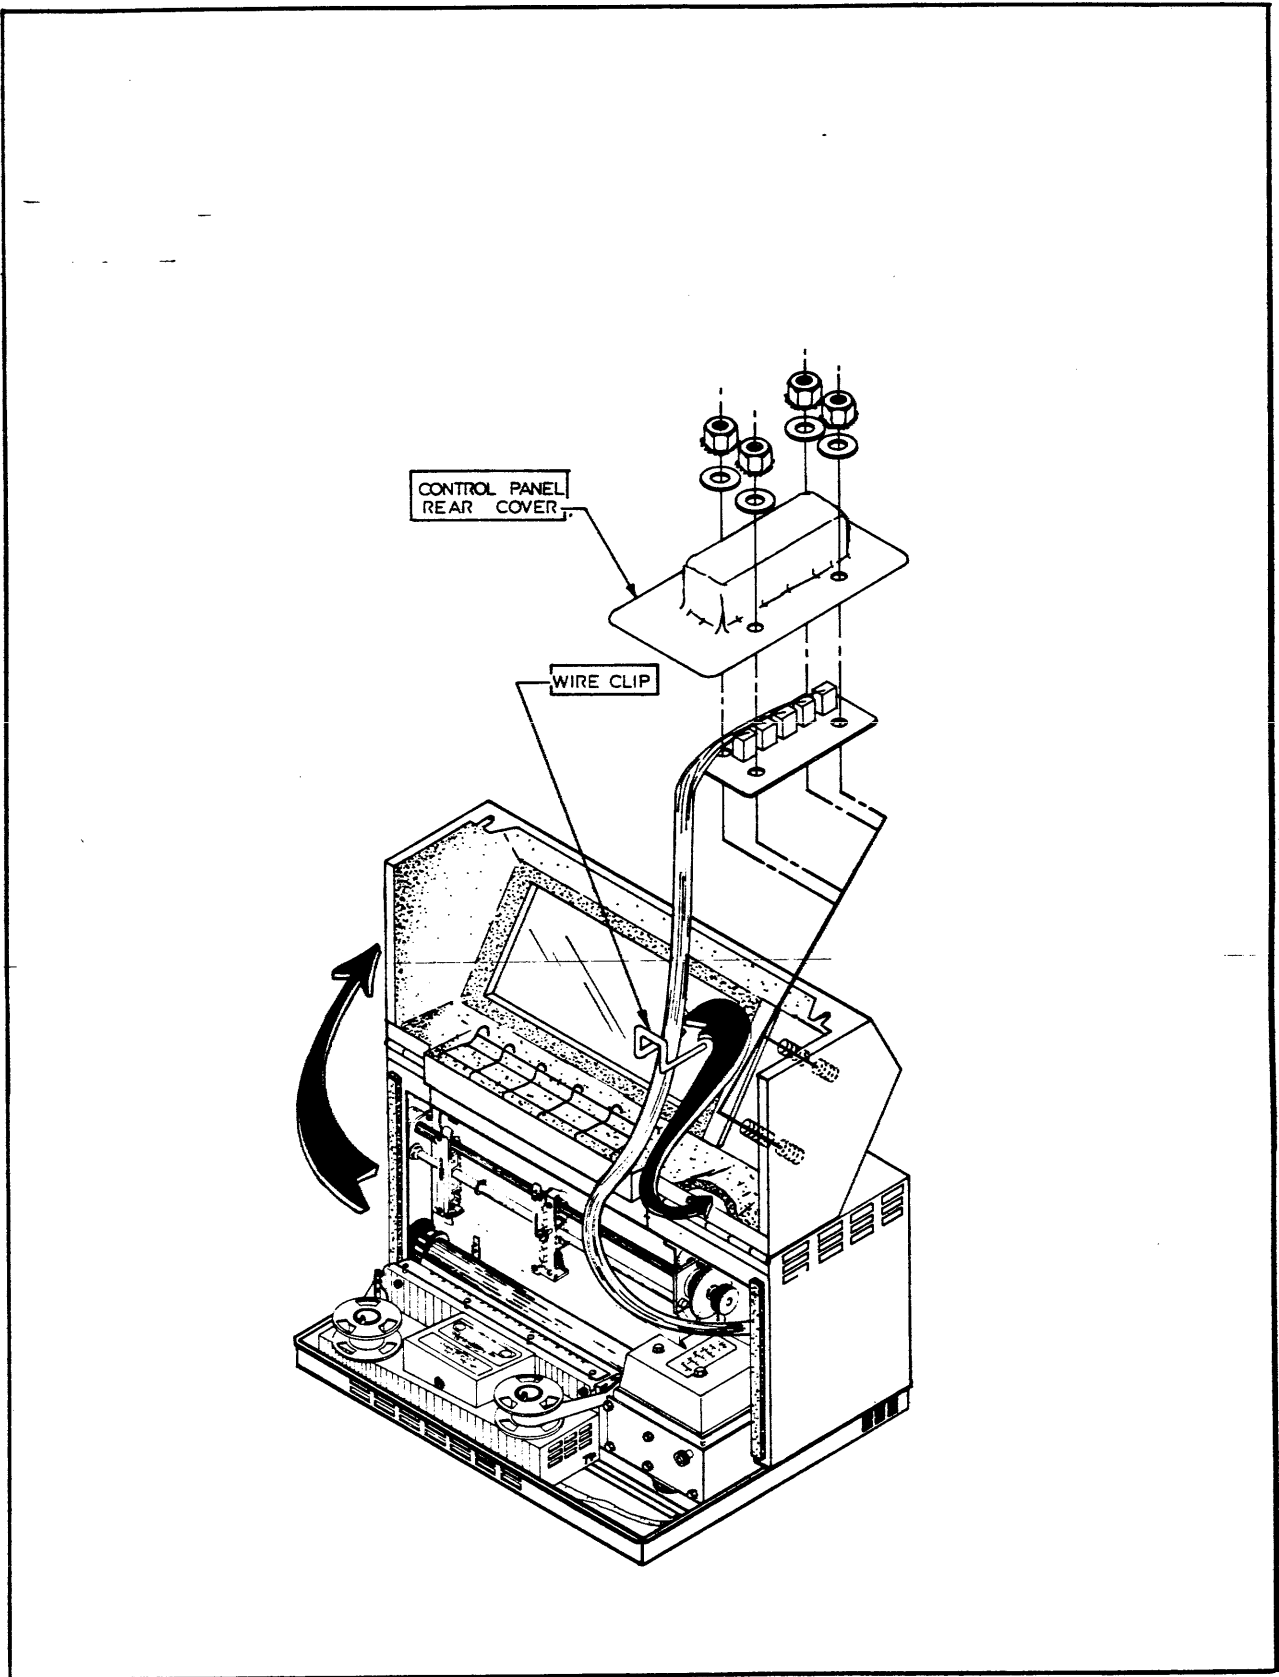

Figure 79 Replacing the Control Panel
- c. To completely remove the control panel along with its cable, remove the screws holding connector J1 (of Logic B PCBA) at the card cage; then cut cable ties as necessary to remove the cable and the control panel (**Figure 79**).